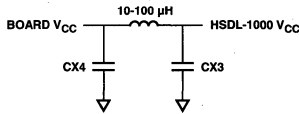

Figure 19c. PI Filter.
- Implement a PI filter on V_{CC} as shown in Figure 19c.